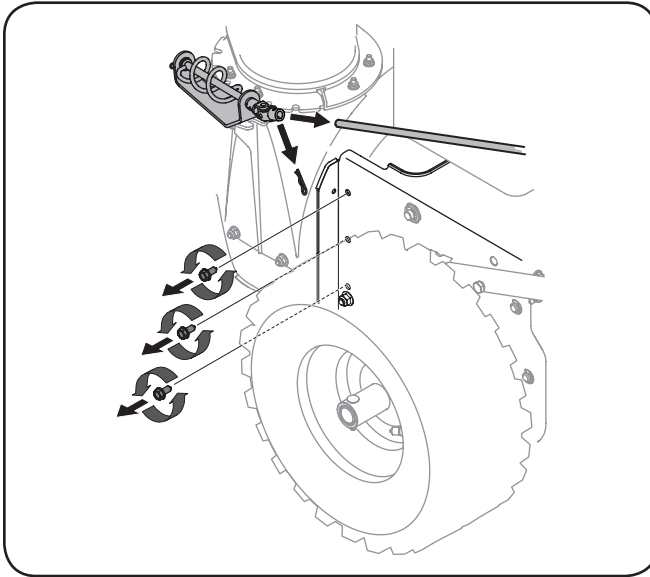

Figure 7-1
1. Remove the chute crank rod from the chute crank assembly by removing the hair pin clip shown in Figure 7-1. Move the chute crank rod away from the assembly as shown.
4. From both sides of the frame assembly, use a 1/2" wrench to remove the three hex tap screws securing the transmission frame to the auger housing assembly. Refer to Figure 7-1.